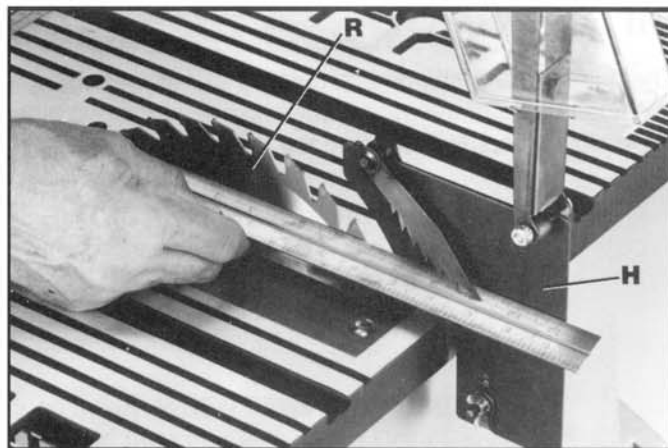

Fig. 8B
9. Using a straight edge, check to see if the splitter (H) Fig. 8B, is aligned with the saw blade (R). If an adjustment is necessary, the splitter (H) can be moved left or right and rotated.